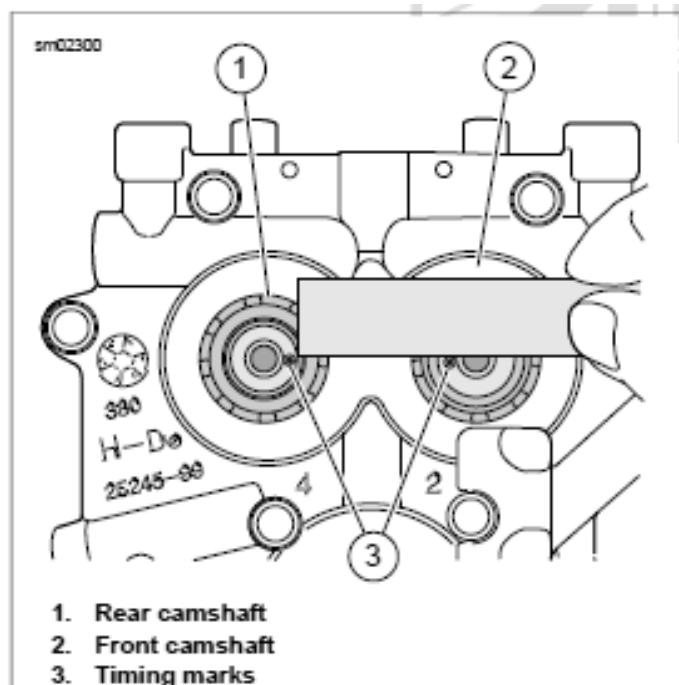

Figure 3-98. Verify Alignment of Timing Marks
7. See Figure 3-98. Using a straightedge, verify that the timing marks are in alignment. If they are not, then the camshafts must be removed, realigned and reinstalled.
8. See Below. Install 0.100 in. thick front camshaft spacer (1) over end of front camshaft.